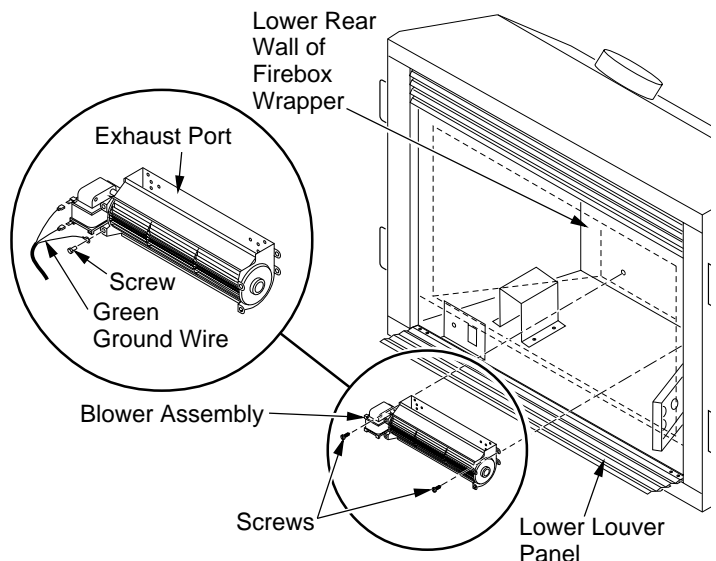

Figure 24 - Mounting Blower to Firebox
IMPORTANT: For clarity, gas valve assembly and grate/burner assembly are not shown in Figures 24 and 25. They will, however, be in your fireplace when you are installing the blower. Also for clarity the firebox is shown with dotted lines.
1. Open lower louver panel as shown in Figure 24.
3. Attach green ground wire from power cord to blower housing using screw provided (see Figure 24). Tighten screw securely.
4. Place the blower under the firebox and against the lower rear wall of firebox outer wrapper with the exhaust port directed upward. Align the holes in the top mounting tabs of blower with holes in wall of wrapper (see Figure 24). Using the two screws provided, mount blower and tighten screws securely.